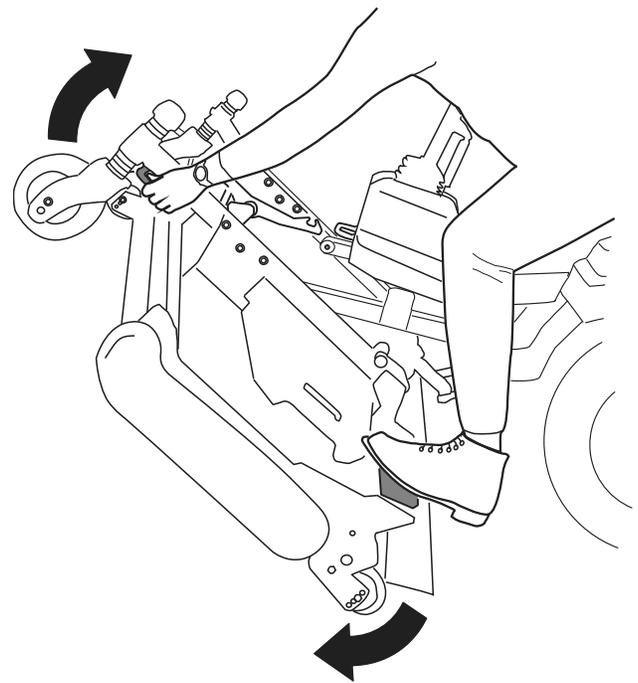
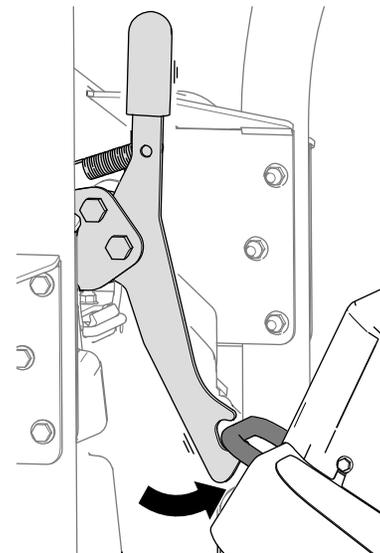
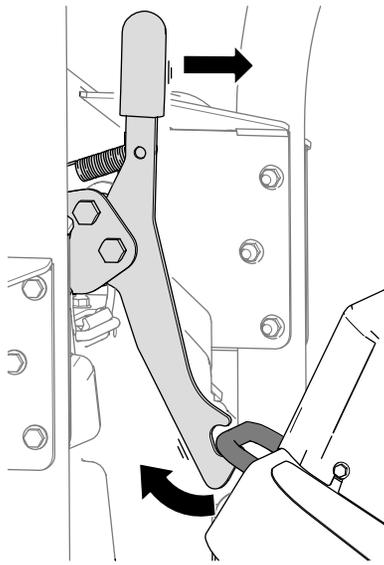

Figure 40
Figure 41
Figure 42
5. Rotate the cutting unit (Figure 40) so that the latch engages with the tie-down bracket (Figure 41).
1. Release the cutting-unit latch from the tie-down bracket (Figure 42) by rotating the cutting unit slightly forward (refer to Figure 40) and pulling the latch handle forward.